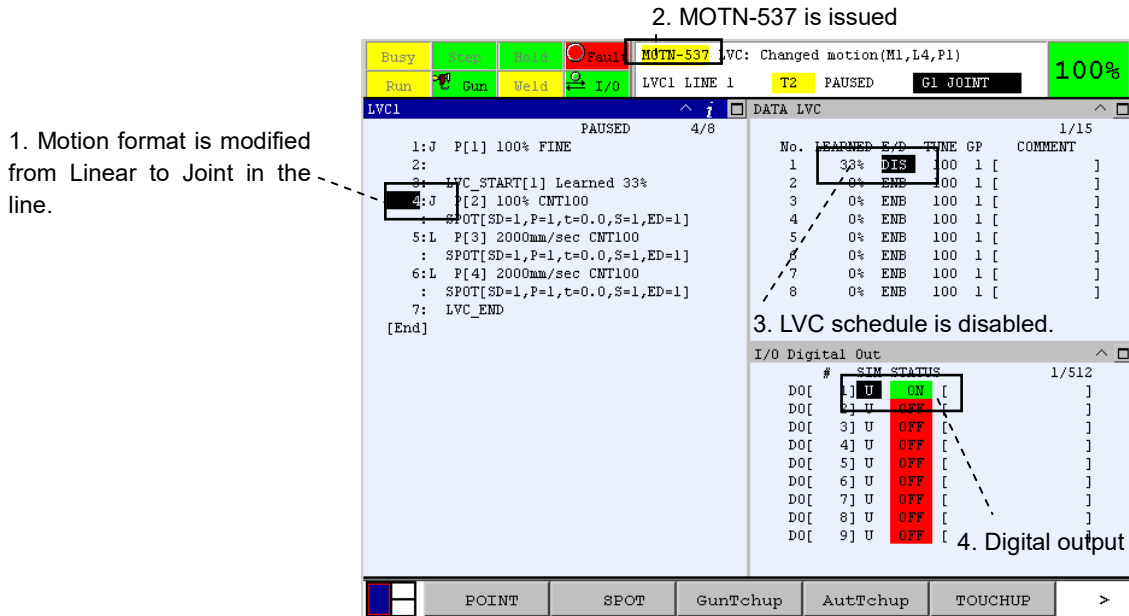

Fig. 4.6.1 An example of MOTN-537
- In learning mode, when a TP program with LVC instruction is executed after touch-up is done, alarm “MOTN-537 LVC: Changed motion” (as Fig.4.6.1), “MOTN-538” or “MOTN-539” is posted and the execution stops. When resuming program execution, the motion becomes normal (non-LVC) motion, neither learning motion nor playback motion. In this time, if “Disable state DO” item is set to the DO number, the DO signal is set ON.